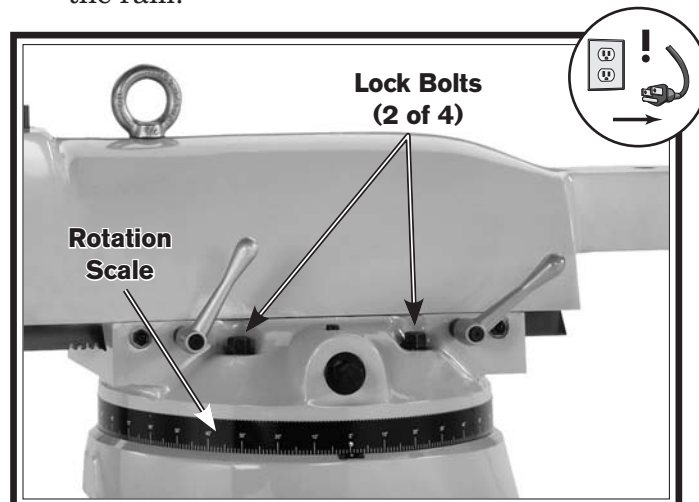

Figure 32. Ram rotating controls.
2. Loosen the four lock bolts on top of the turret (see **Figure 32**).